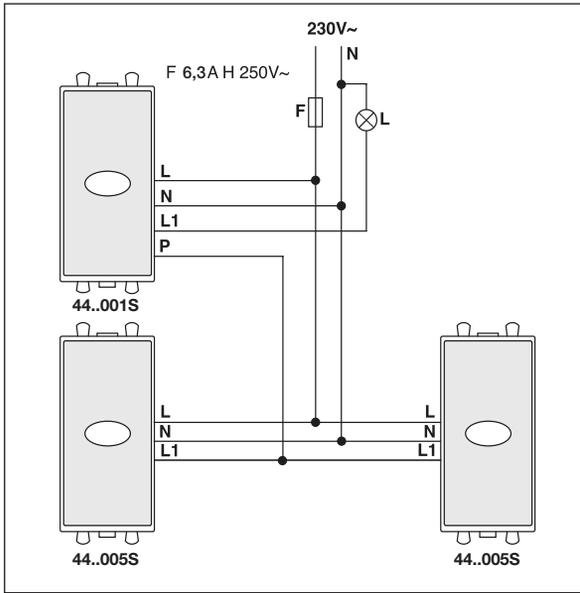

Figure 2
- 44..005S with touch switch 44..001S (figure 2);